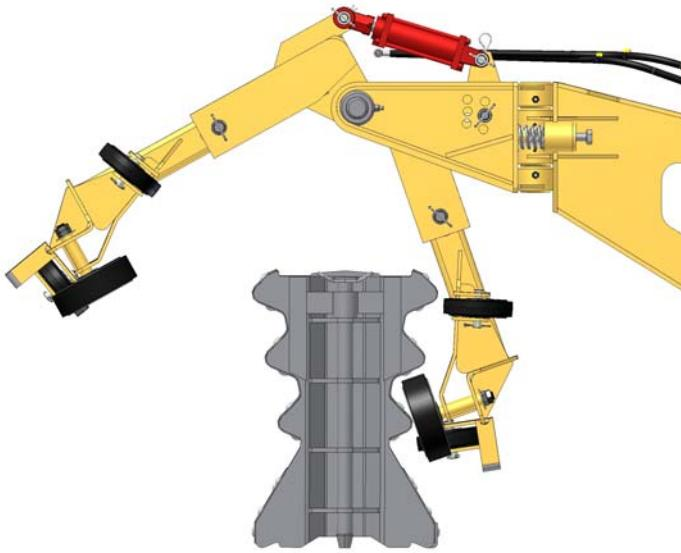
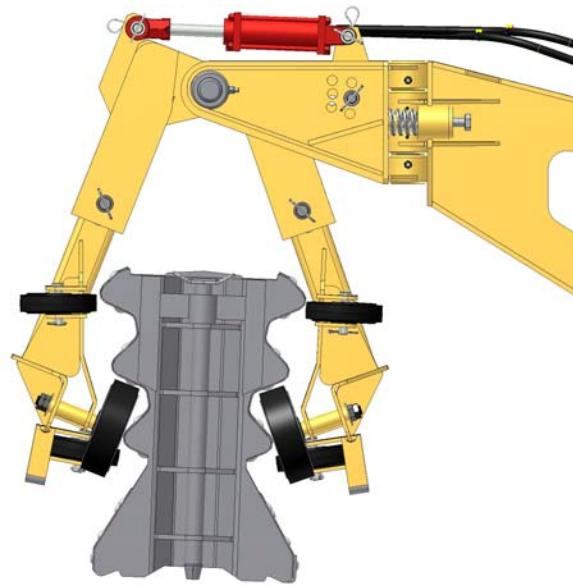

Figure 6
Figure 7
carrier assembly and finally lifting the VTA so that the 10" wheels contact the bottom of the middle hump. See Figures 6 & 7.
3. With the carrier assembly fully closed around the barrier, inspect how tightly the carrier clamps the barrier. The large 10" support wheels should support the middle hump of the barrier, without tightly clamping around the lowest hump of the barrier's thrie beam. The lower 8" guide wheels should touch the barrier, with only a small amount of compression. See Figure 7.
1. Using a person acting as a spotter, extend the outer carrier and drive parallel to the Vulcan Barrier and position the inner carrier against the barrier. See Figure 6. As the spotter indicates adjustment, lower the outer carrier on to the other side of the barrier See Figure 7. The spotter will verify that the carrier wheels are properly engaged before moving the barrier. The VTA carriage should be positioned on the barrier so that the 10" diameter lift wheels are positioned below the middle hump of the thrie beam. This is best done by lowering the 10" diameter lift wheels several inches below the middle hump of the barrier, then closing the VTA carrier assembly and finally lifting the VTA so that the 10" wheels contact the bottom of the middle hump.